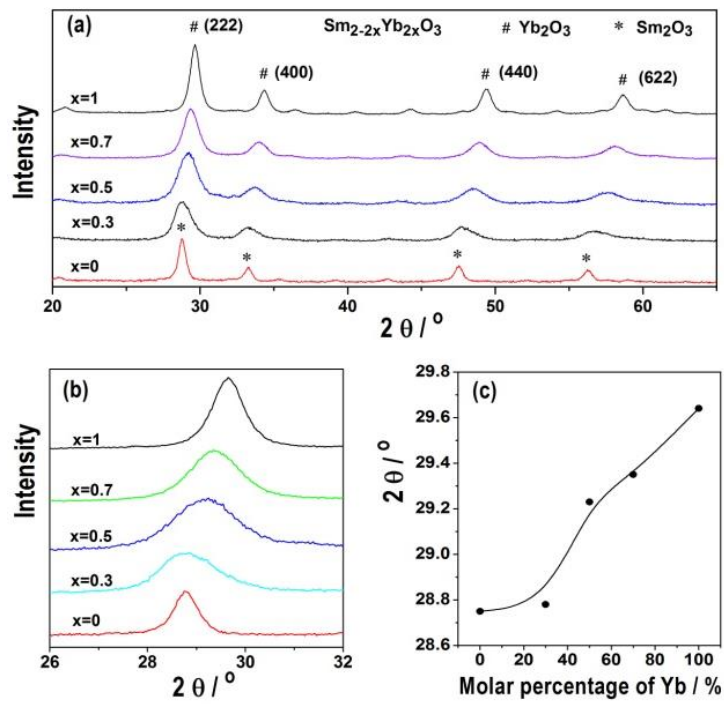

Fig. S9 XRD patterns (a, b) of SmYb-MOs with different molar percentage of Yb. (c) The changes of (222) peak degree with Yb content.
10. **Fig. S9** XRD patterns of SmYb-MOs with different molar percentage of Yb.